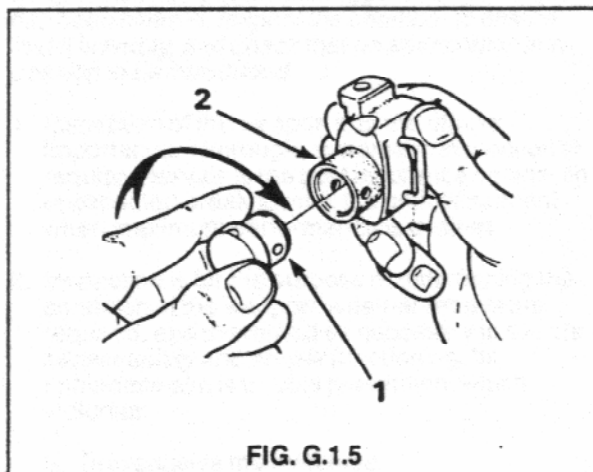

FIG. G.1.5
4. The nylon buffer can be pulled out of the bracket butt by hand. The nylon buffer may be damaged or worn at the top edge. This is the contact surface against which the rear of the bolt hit during the rearward movement of the recoiling parts. To rectify remove the nylon buffer, rotate it through 180° and assemble. See Fig. G.1.5.